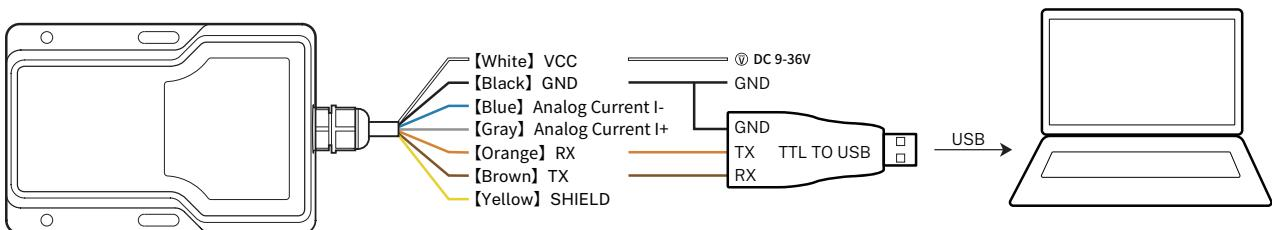

Figure 2. L3s/L3s-Filled wiring diagram (brown wire is not connected)
1. Following Figure 2, connect the white wire to the positive terminal of a DC 9-36V power supply, and the black wire to the negative terminal of the power supply or serial ground (GND).
- ⑤ The USB to 485/TTL converters of our company feature magnetic upper covers. Upon opening, there is a small screwdriver inside for conveniently and securely fastening after wiring.